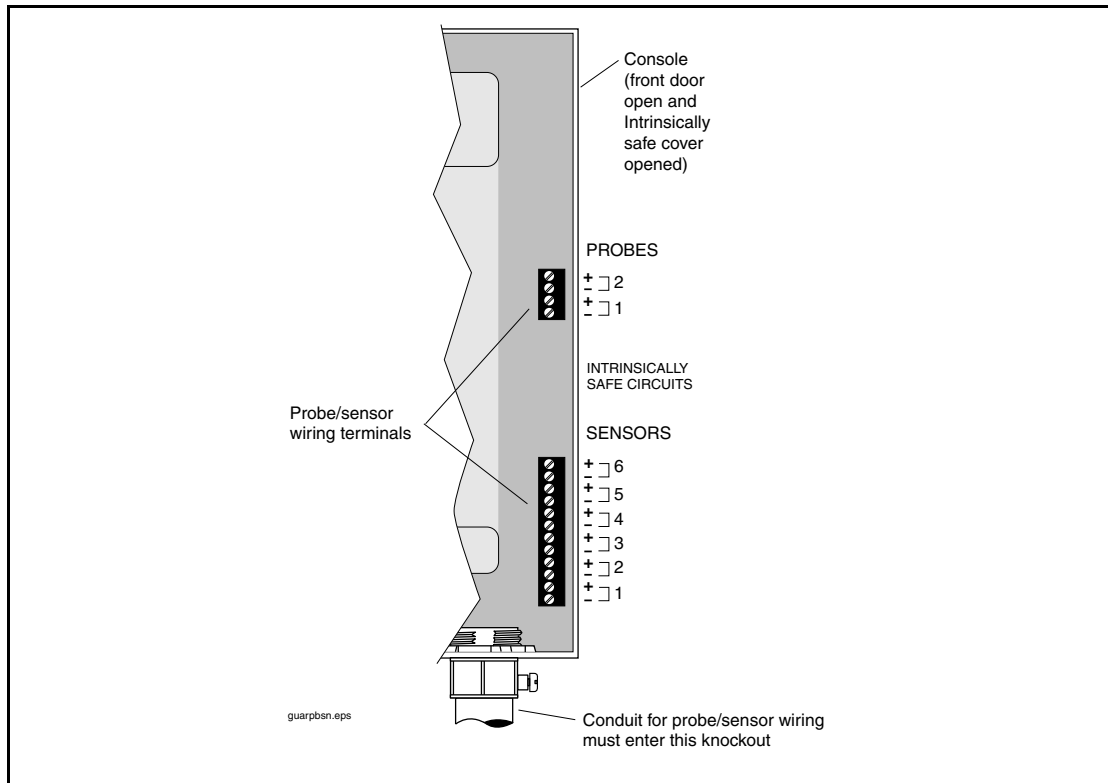

Figure 25. Probe and Sensor Wiring Terminals
1. Connect the two color-coded or marked wires from the probe to the Probe terminals [Figure 25].
1. Connect the two color-coded or marked wires from the sensor to the Sensor terminals [Figure 25].